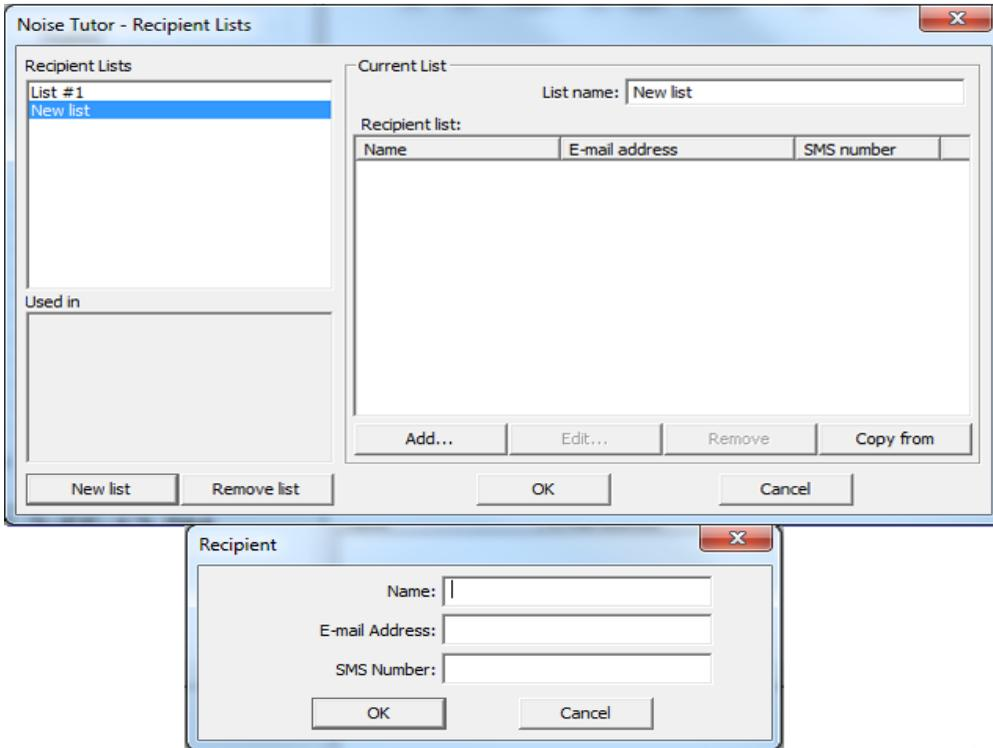

FIGURE 3-17 Recipient List Set-up
Step 3 For **List name**, type the name of the new recipient list, as shown in FIGURE 3-17.
Step 7 Click the **New List** button to create additional recipient lists, as shown in FIGURE 3-17.